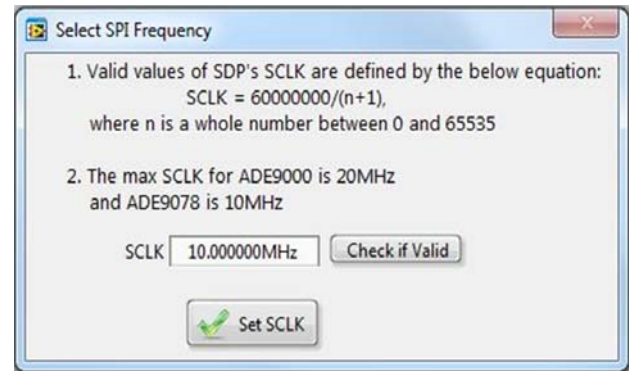

Figure 11. Clicking the **Set SCLK** Button on the SDP
1. **Set SCLK.** Clicking this button opens a window, as shown in Figure 11. Set the SPI clock frequency for communication between the ADE9078 and the Blackfin microcontroller unit (SDP) using this window. The intended SCLK frequency value is entered on the SCLK control and the